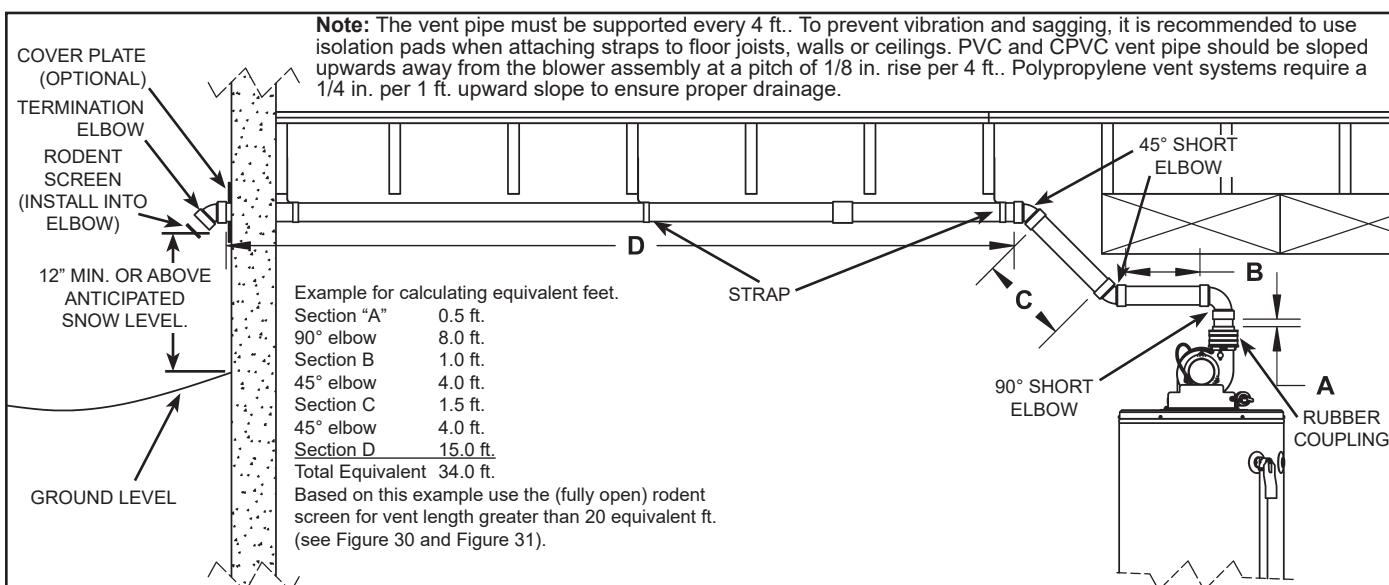
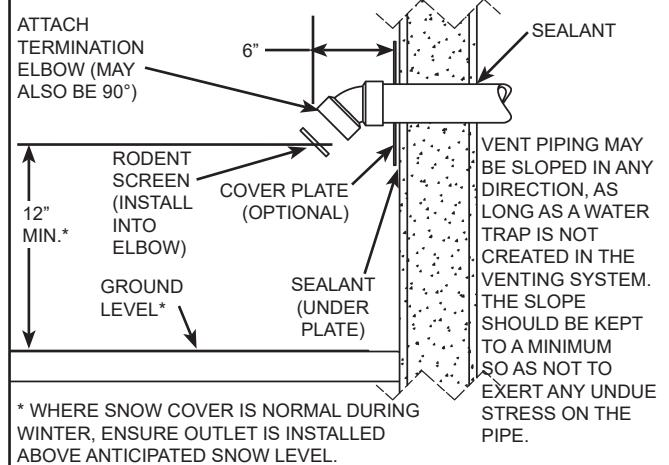

Figure 32.
Figure 33.
This heater is designed to exhaust the products of combustion (flue gases) to the outdoors using a sealed piping system. Table 3 lists the allowable vent materials and sizing information. Figure 32 shows the general venting layout while Figure 36 through Figure 40 show various end termination details and clearances. Connection of the venting piping to the blower is shown in Figure 36 through Figure 40.
- Refer to Figure 32 and Table 3 for vent pipe materials and sizing. Examples of the vent terminations are shown in Figure 33 and Figure 34. If the installation requires a vent riser, suitable drainage must be provided to ensure condensation does not accumulate. Termination through a roof is shown Figure 35.
Installed in the vent termination elbow, the vent screen is required to keep foreign objects, rodents and small birds from entering the venting system. These screens have been sized to ensure maximum energy efficiency of the vent system based on the "equivalent length" of the vent piping. CHOOSE ONLY the ONE SCREEN THAT MATCHES YOUR VENTING CONFIGURATION (see Figure 30 and Figure 31). How to determine the "equivalent length" is shown in Figure 32 and in Table 3.
5. Calculate “Equivalent Vent Length” before starting. Do not exceed the values shown in Table 3. An example of how this length is determined is shown in Figure 32. The value from your calculations should also be used to determine which rodent screen to install into the vent termination elbow.
9. Insert the vent piping through this hole and secure into position. Connect the vent pipe to the end termination elbow as shown in Figure 33 through Figure 35.